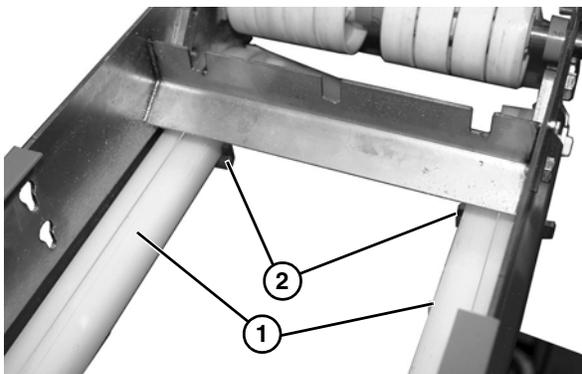

Figure 22
2. Install belt return (**Figure 22, item 1**) onto mounting bracket (**Figure 22, item 2**).